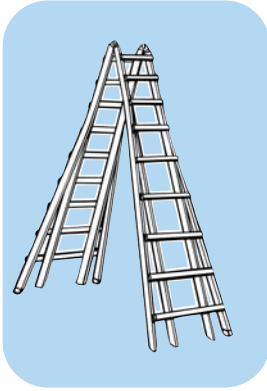

Figure A-1 A-Frame
- a. A-Frame (See Figure A-1)
A. The HINGE located at the top of the ladder when it is in storage position, permits you to alter the shape of the ladder. This hinge locks in the following position. (See figures A-1, A-2)
2. You may now open the ladder to the A-frame position by pulling the two ladder halves apart until both hinge lock pins snap into the A-frame locked position. (See figure A-1)